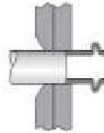

Figure 5
- (5) With a punch of the same diameter as the diameter nominal of the rivet, extract what remains of the body of the rivet, see Figure 5.